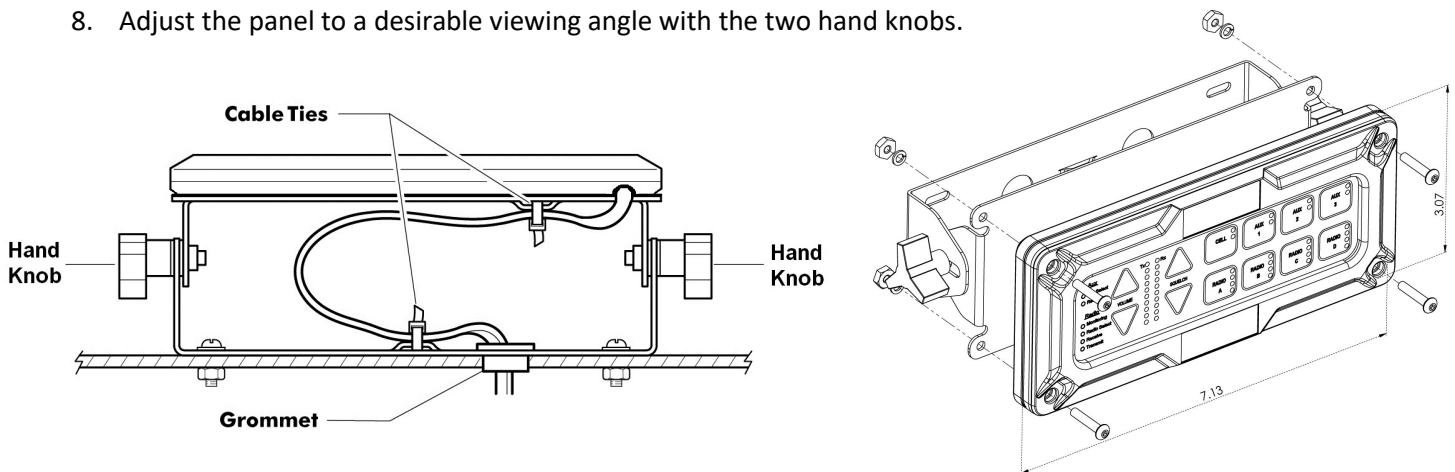

FIGURE 17: Remote Bracket (bottom view)
3. Snap the grommet into the bracket as shown in (Figure 17) and then use the bracket as a template to mark the mounting holes.
4. Drill (4) mounting holes: 7/64" for #6 sheet metal screws or 9/64" for #6 machine screws. Mount the bracket using the included hardware
5. Secure the Remote Head to the front of the bracket with the included machine screws, split washers, and nuts as shown in Figure 17. **Recommended torque : 10 in-lbs.**
6. Thread the cable through the bracket assembly as shown in (Figure 17).
7. Using the supplied cable ties secure the CA Cable to the bracket anchors as shown (Figure 17).